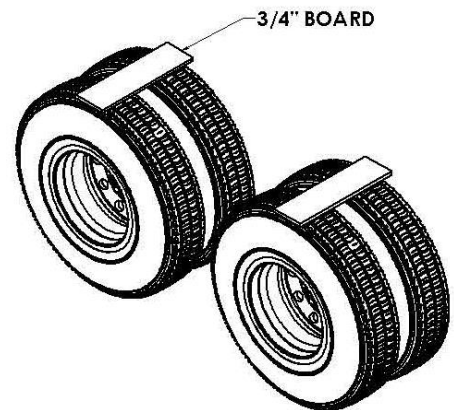

Figure 3
- a. For an air suspension system, place a $\frac{3}{4}$ ” board on top of the tires after the air has been let out of the airbags (Figure 3). Place the fender on top of the board.